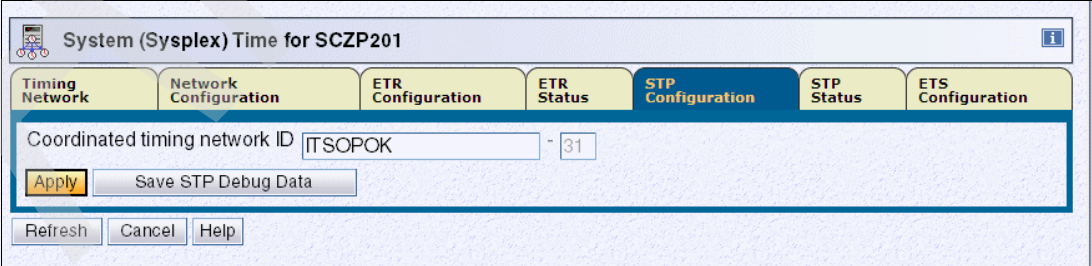

Figure 7-10 STP Configuration tab: Define STP ID
2. From the STP Configuration tab enter the STP ID. The ETR Network ID field is read only. It displays the value entered in the previous step. See Figure 7-10.